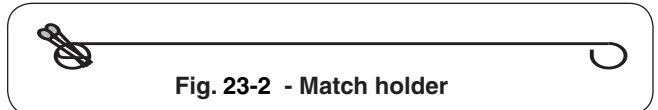

Fig. 23-2 - Match holder
2. Insert either a burning long-barrel butane lighter, a burning long-stem match, or a burning match held by a wire extension holder (Fig. 23-2) through the cooking grids to the burner (Fig. 23-3). For backburners, hold the flame against the perforated material of the backburner. For sideburners, hold the flame against the burner.